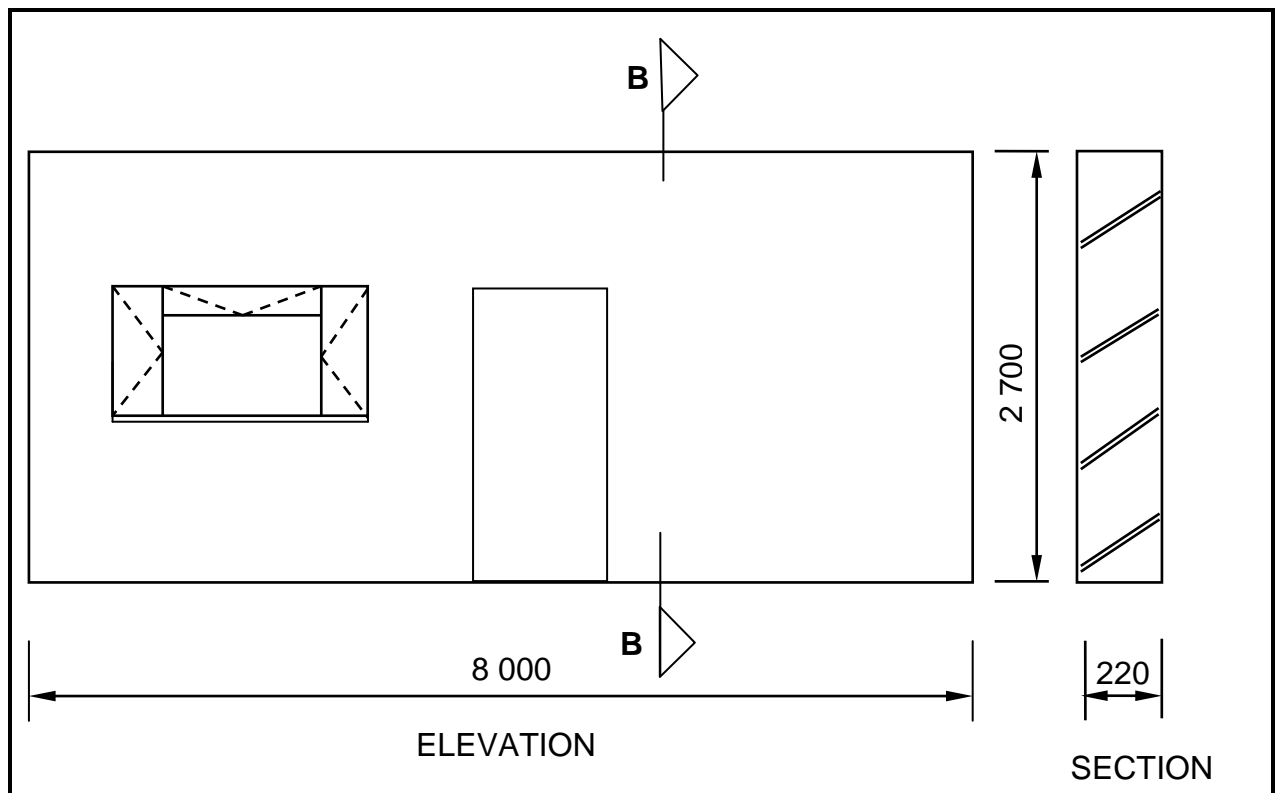

FIGURE 4.5
- 4.5 FIGURE 4.5 below shows the front elevation and vertical cross section of a part of a wall (superstructure only).